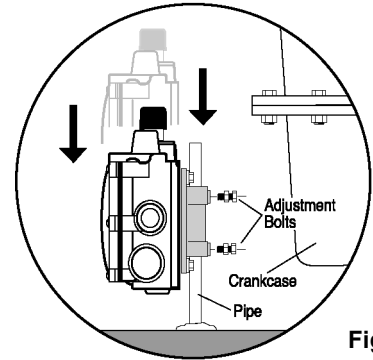

Figure 5
2. Attach the 1 inch (25 mm) diameter, flexible monitoring hose to the crankcase and the monitoring port on the LM500. See Figure 5.
IMPORTANT: With the engine running and warm, loosen the mounting bracket adjustment bolts and adjust the LM500 so that the oil level in the sight gauge is aligned with the middle of the green bar on the dial (see example, Figure 5).